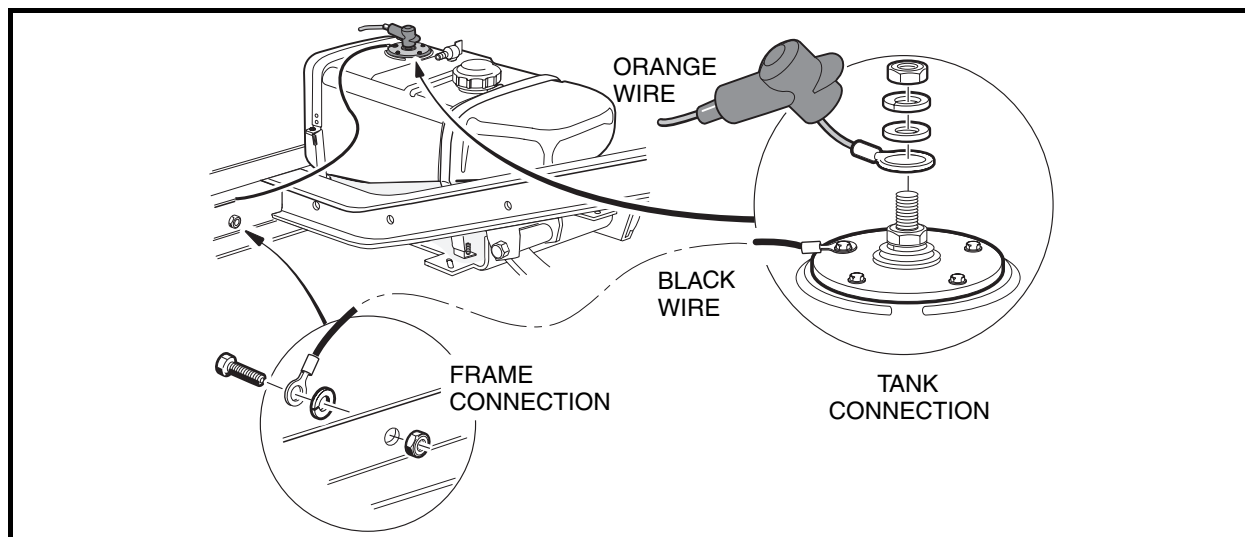

Figure 14-14 Fuel Level Sending Unit
9. If vehicle is equipped with a fuel gauge, disconnect the black wire and orange wire from the fuel level sending unit on the tank (**Figure 14-14, Page 14-23**). Do not remove the lower nut on the center stud of the sending unit. **See following WARNING.**
7. Slide the rubber boot over the stud (**Figure 14-14, Page 14-23**).